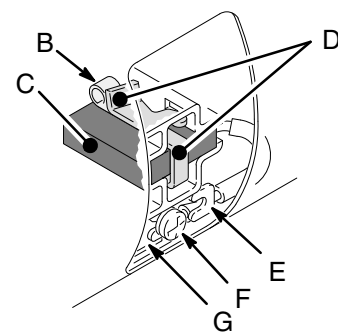

Fig. 13 01227
4. Loosen the screw (F). Pull away the brush's electrical lead (E), leaving the motor's electrical lead (G) in place. Remove the brush (C) and the spring (B). See Fig. 13.